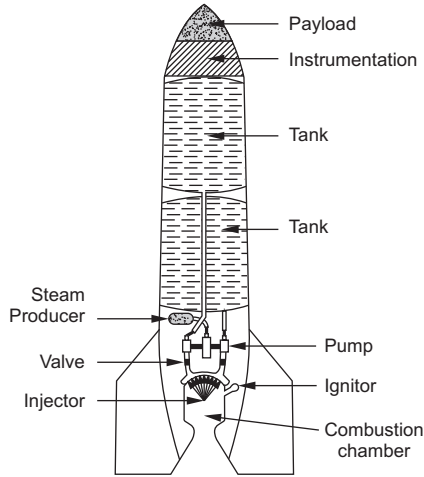

Fig. 1.1
- (g) Combustion chamber (See Fig. 1.1)